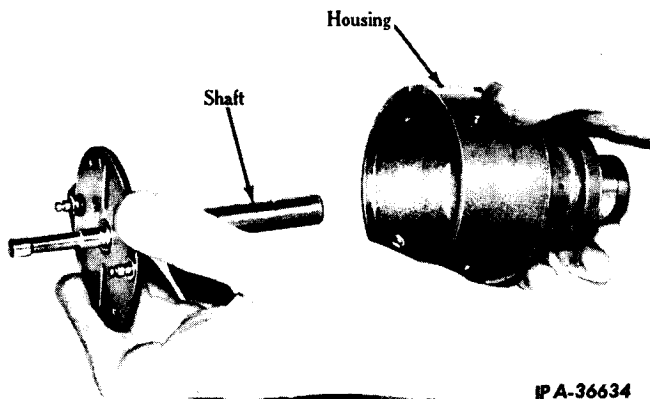

Fig. 14 - Removing Drive Shaft.
17. Remove the drive shaft through the top of the housing (Fig. 14).
4. Install the drive shaft through the thrust washer and bushing (Fig. 14) using a twisting motion.